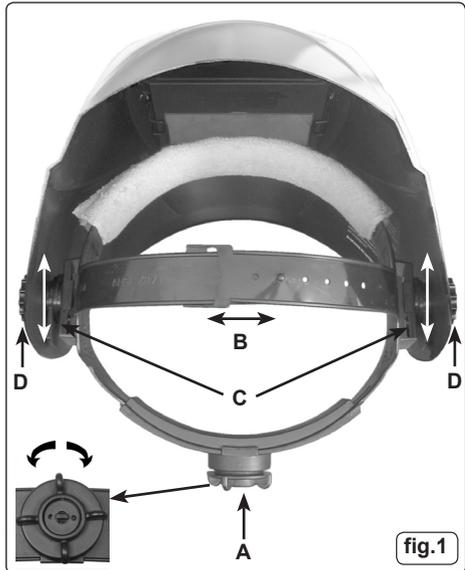

fig.1
The overall circumference of the headband can be made larger or smaller by pushing in and rotating the knob on the back of the headband (See adjustment 'A' in fig.1). This can be done whilst wearing the helmet and allows just the right tension to be set to keep the helmet firmly on the head without it being too tight.
- 4.3 If the headband is riding too high or too low on your head adjust the strap which passes over the top of your head. To do this release the end of the band by pushing the locking pip out of the hole in the band. Slide the two portions of the band to a greater or lesser width as required and push the locking pip through the nearest hole (See adjustment 'B' in fig.1).
To adjust the distance between the helmet and your face in the down position loosen the tilt knobs (D) on either side of the helmet and slide it nearer to or further from your face. (See adjustment 'C' in fig.1) It is important that your eyes are each the same distance from the lens otherwise the darkening effect may appear uneven. Re-tighten the tilt knobs when adjustment is complete.